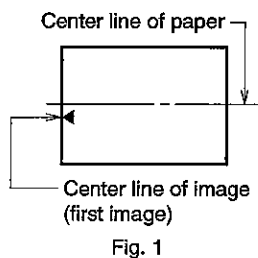

Fig. 1
Make a copy. If the center of the copy is displaced as shown in Fig. 1 or Fig. 2, loosen the four screws shown below that secure the front cabinet of the paper tray and then carry out the following work.
• **In the case of Fig. 1**